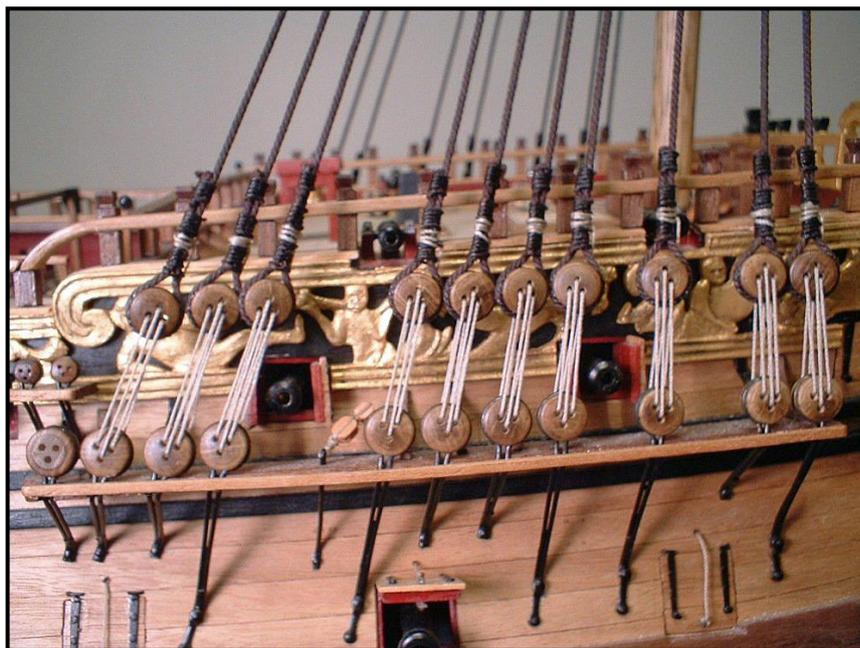

Figure 31: Deadeye Rigging (not FW)
*A majority of builders avoid producing the mouse (Fig. 31) and yet it can be created with a high degree of accuracy or simulated to look realistic. Some approaches include using cotton wool packing which is then covered over with rope or the utilisation of a self-adhesive bandage to simulate the intricate weaving ! The latter interesting approach is to be found on MSW forum. Even if this method is not fully followed, there are some useful techniques that could be used.*